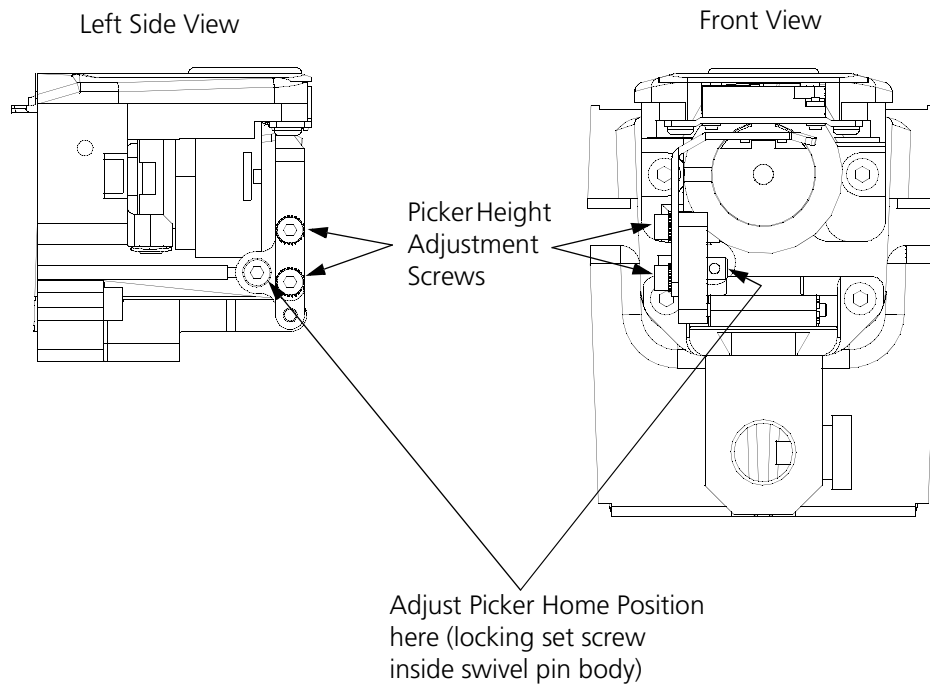

Figure 4-27
3. Loosen the set screw inside the swivel pin body shown in Figure 4-27.
2. To adjust the picker height, loosen the two screws on the left side of the picker as shown in Figure 4-27